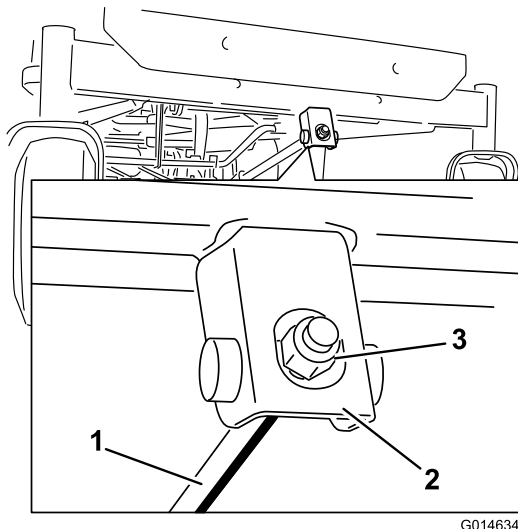

Figure 59
6. To adjust the front-to-rear blade slope, rotate the adjustment nut in the front of the mower (Figure 59).